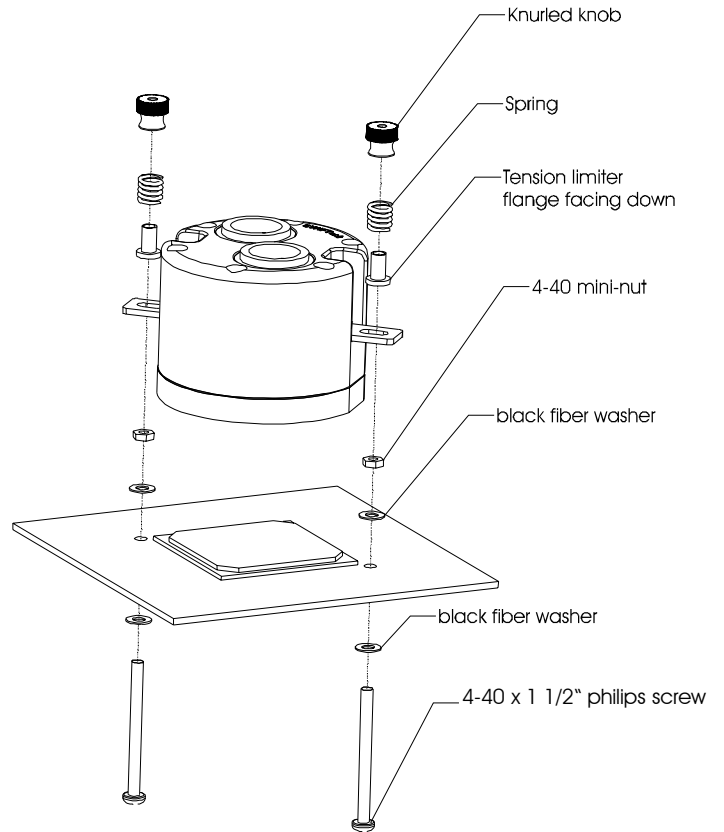

Figure 10
- ❑ Slide down the MCW20-A over the retention screws, as shown figure 10, then install the nylon tension limiters (flange facing down), the springs, and tighten the assembly with the knurled knobs. Over tightening of the assembly is prevented by the tension limiter. Users should be cautious nonetheless, as nylon can be easily crushed.